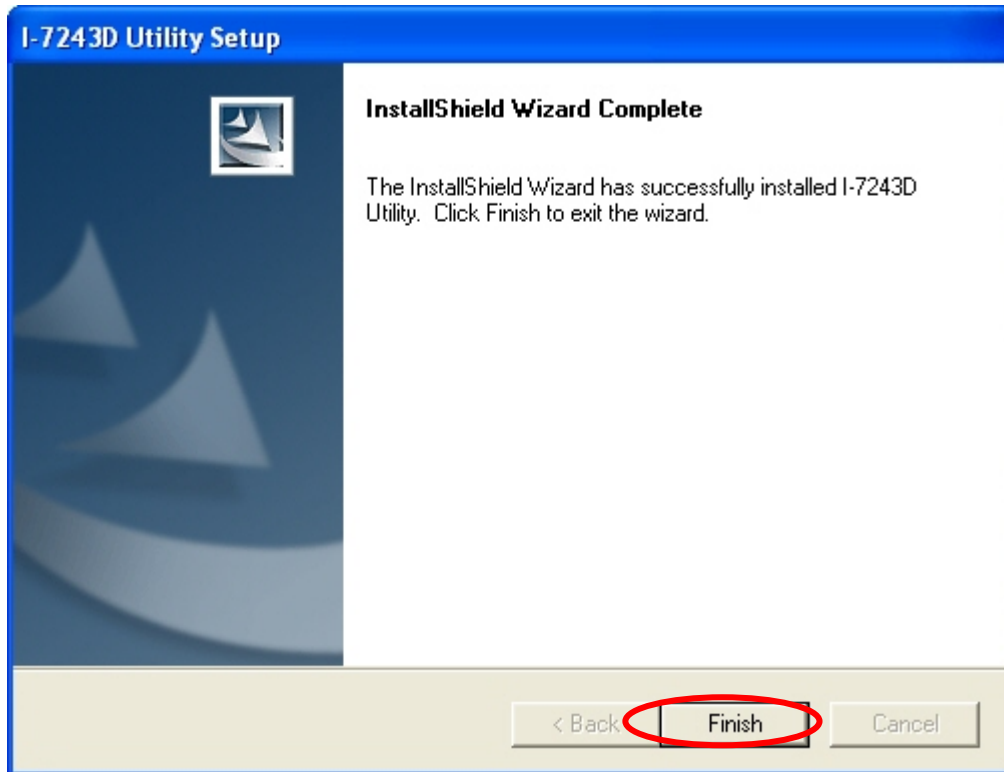

Figure 5-5: “Successful Completion of the Installation” dialog
Step 6: Click “Install” button and start to install the I-7243D Utility to the system. After finishing the process, a “Complete” window will pop up to prompt users that the successful completion of the installation. And click “Finish” button to exit. See figure 5-5.